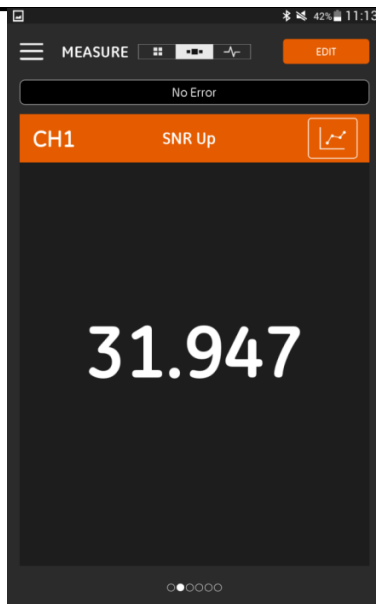

Figure 45: MEASUREMENT One-display
- The default one-measurement display is the value of the real-time measurement number like figure 45.